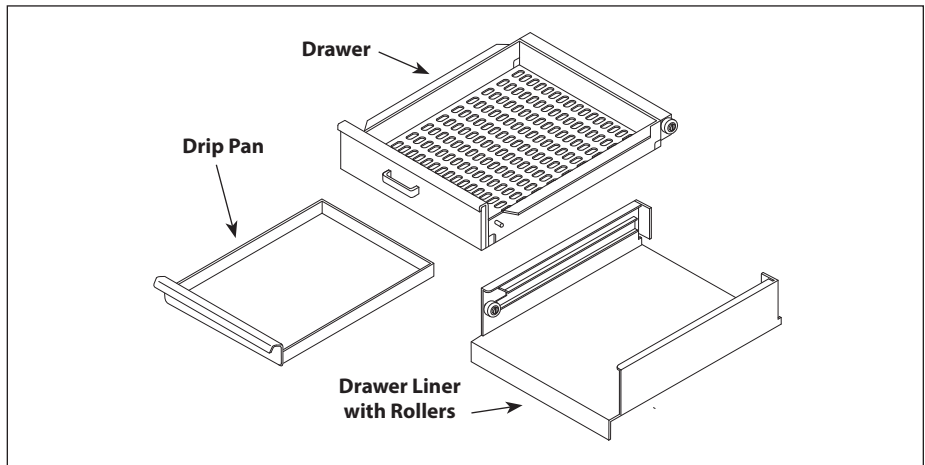

Figure 2. Washing Parts-MS-255 Only
5. **MS-255:** Remove and wash the Drawer, Drawer Liner with Rollers, and Drip Pan (Figure 2) in soap and water. Rinse with clean hot water and allow to air dry.